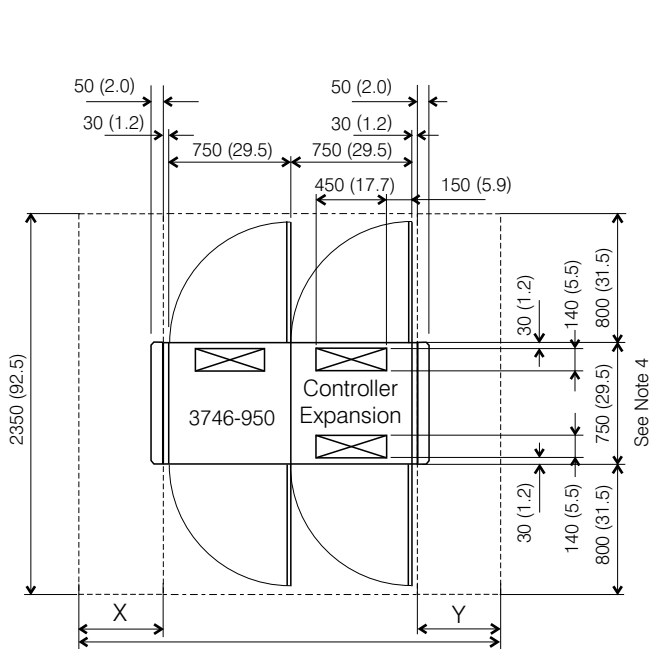
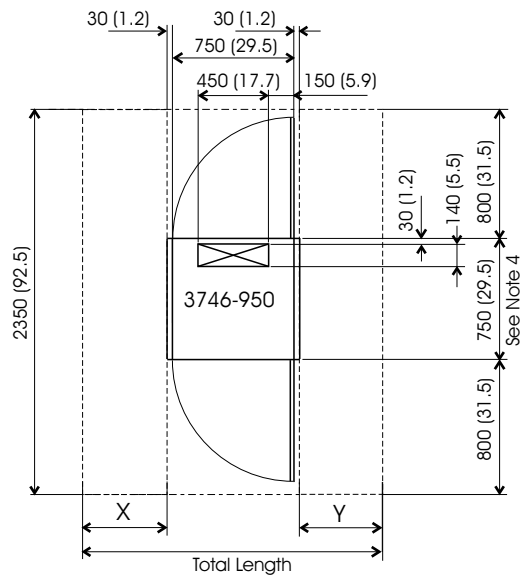

Figure 1. Plan View of a 3746-950 with Controller Expansion.
Figure 2. Plan View of a 3746-950 Alone
3. Make sure that the re-installation areas, the floor cutout size and location areas are in accordance with Figure 1 or Figure 2. If not inform the customer.